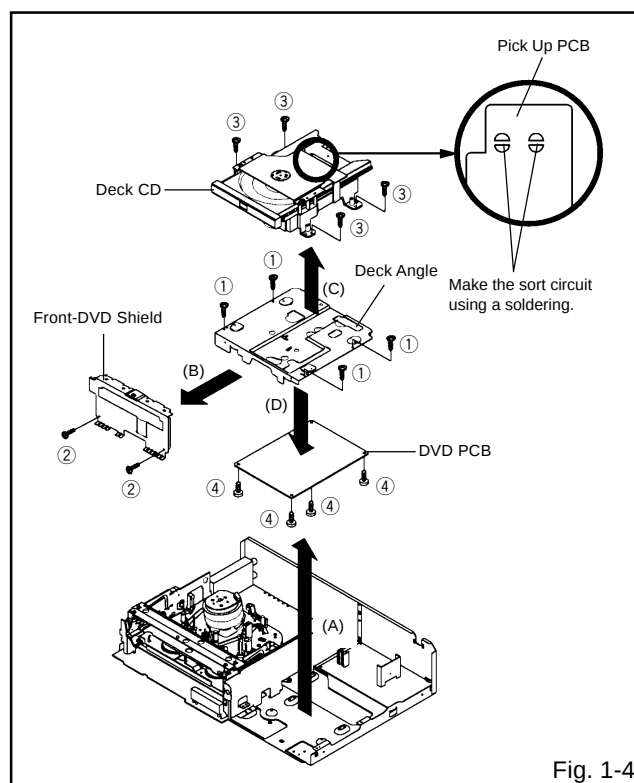

Fig. 1-4
1-4: DECK CD AND DVD PCB (Refer to Fig. 1-4)
1. Make the short circuit on the position as shown Fig. 1-4 using a soldering. If you remove the Deck CD with no soldering, the Laser may be damaged.
3. Remove the 4 screws ①.
4. Remove the Deck Angle in the direction of arrow (A).
5. Remove the 2 screws ②.
6. Remove the Front-DVD Shield in the direction of arrow (B).
7. Remove the 4 screws ③.
9. Remove the Deck CD in the direction of arrow (C).
10. Remove the 4 screws ④.
11. Remove the DVD PCB in the direction of arrow (D).